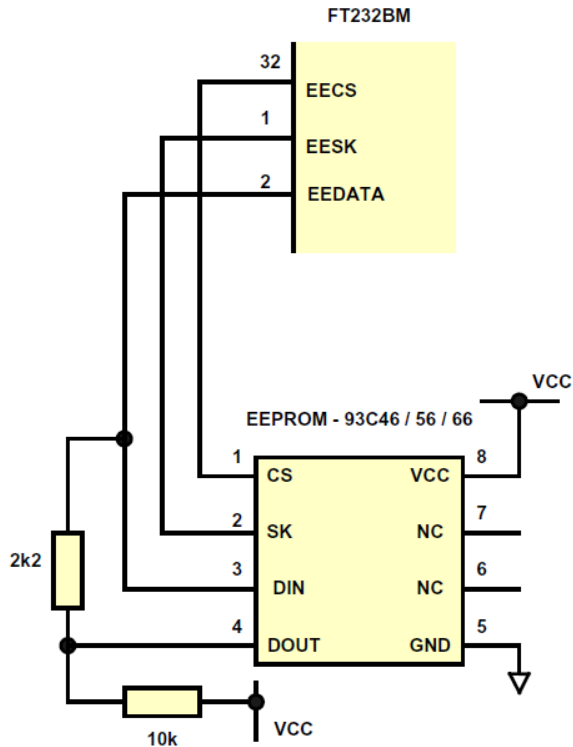

Figure 7.3 EEPROM Configuration
Figure 7.3 illustrates how to connect the FT232BM to the 93C46 (93C56 or 93C66) EEPROM. EECS (pin 32) is directly connected to the chip select (CS) pin of the EEPROM. EESK (pin 1) is directly connected to the clock (SK) pin of the EEPROM. EEDATA (pin 2) is directly connected to the Data In (Din) pin of the EEPROM. There is a potential condition whereby both the Data Output (Dout) of the EEPROM can drive out at the same time as the EEDATA pin of the FT232BM. To prevent potential data clash in this situation, the DOUT of the EEPROM is connected to EEDATA of the FT232BM via a 2.2K resistor.